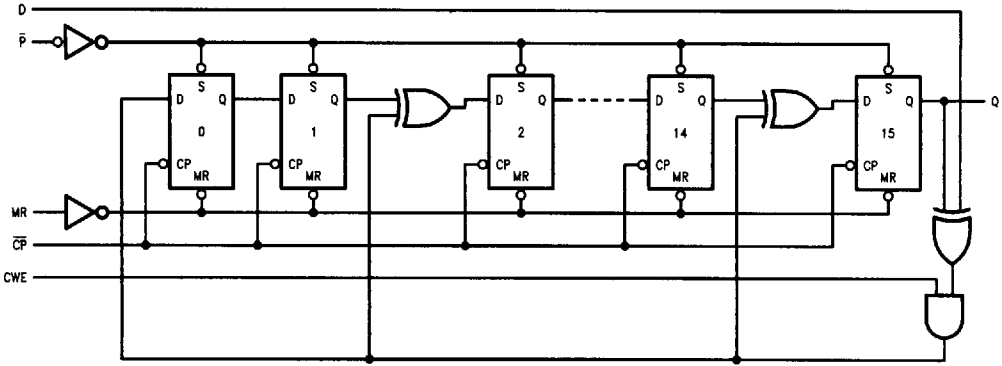
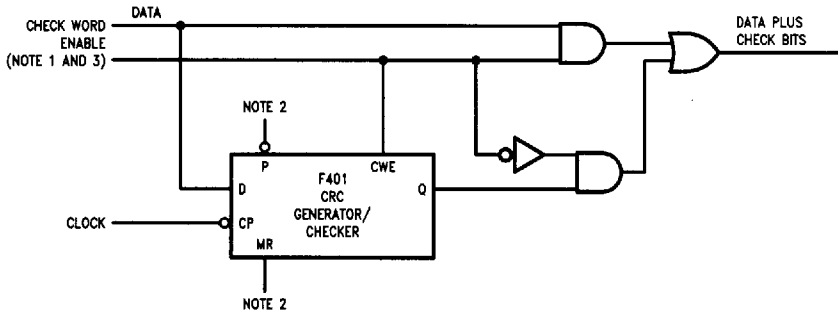

FIGURE 1. Equivalent Circuit for $X^{16} + X^{15} + X^2 + 1$
FIGURE 2. Check Word Generation
Clock input (\overline{CP}). This data is gated with the most significant output (Q) of the register, and controls the Exclusive OR gates (Figure 1). The Check Word Enable (CWE) must be held HIGH while the data is being entered. After the last data bit is entered, the CWE is brought LOW and the check bits are shifted out of the register and appended to the data bits using external gating (Figure 2).